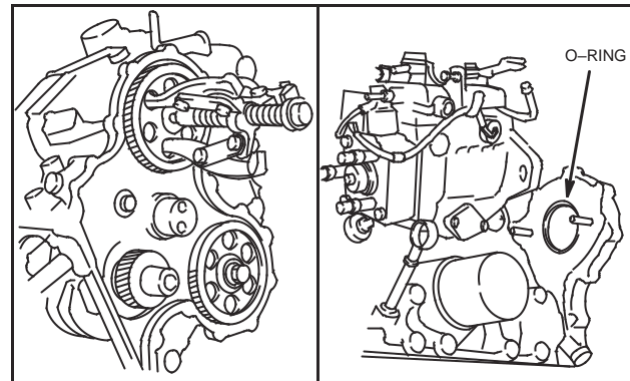

Fig. 11 – Removing Injector Pump
6. Remove injector pump timing gear with a three jaw puller, Fig. 11.